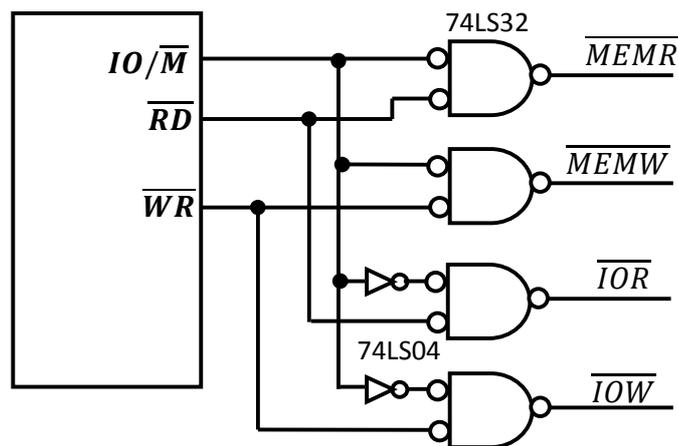

Fig 1.8 Schematic to Generate Read/Write Control Signals for Memory and I/O
- ✓ Fig 1.8 shows that four different control signals are generated by combining the signals \overline{RD} , \overline{WR} and IO/\overline{M} . The signal IO/\overline{M} goes low for the memory operation.
- ✓ When IO/\overline{M} goes high, it indicates the peripheral I/O operation. Fig. 1.8 shows that this signal is complemented and ANDed with \overline{RD} and \overline{WR} signals to generate \overline{IOR} (I/O Read) and \overline{IOW} (I/O Write) control Signals.